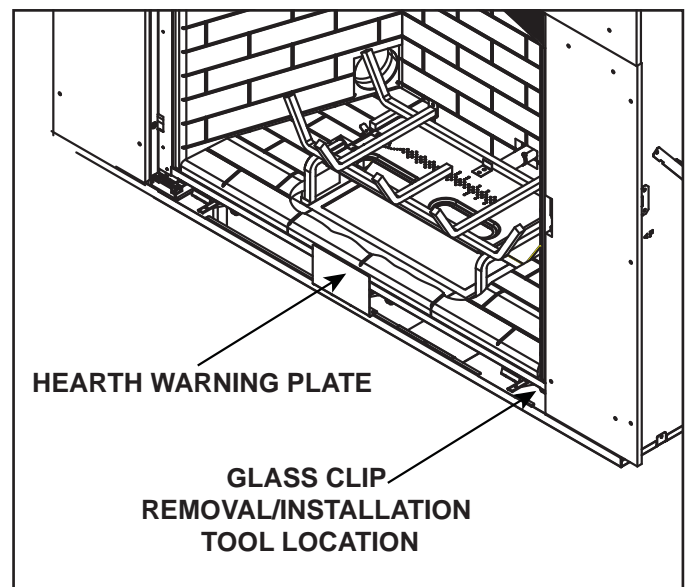

Figure 1. Warning Plate Location
1. Remove hearth warning plate from appliance by removing two screws. The plate was factory-installed to ensure that the hearth was installed to the required clearances. See Figure 1.